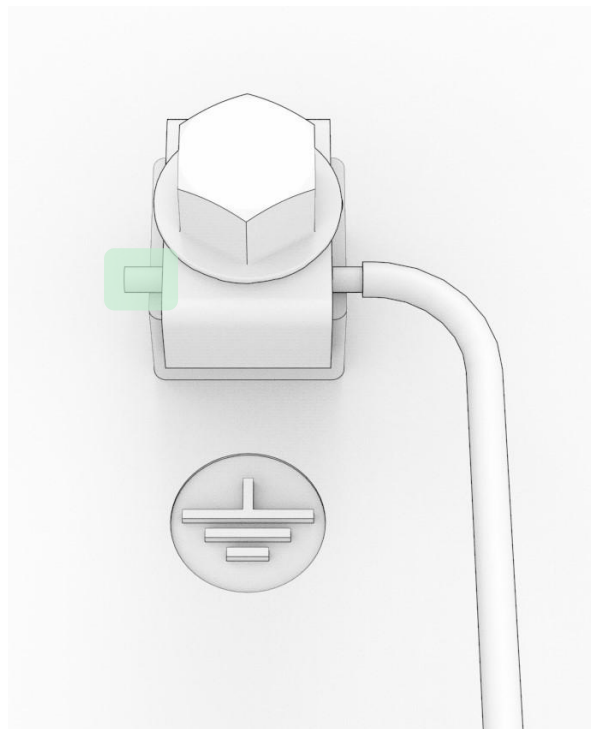

Figure 12
4. Strip the ground wire to ⅝" (16mm). Loosen the grounding screw and place the grounding wire between the grounding post and grounding saddle washer. Tighten the screw to approximately 50 in-lb (6Nm) and ensure the ground cable extends past the saddle washer by ⅛" as highlighted in Figure 12. **DO NOT OVERTIGHTEN THE GROUND SCREW.**